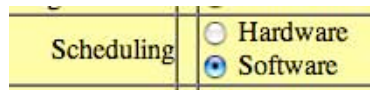

Figure 2: Scheduling option – if viewable, indicates this is a P9 board.
- If you see an option to choose Scheduling as shown in Figure 2, the module is series P9.